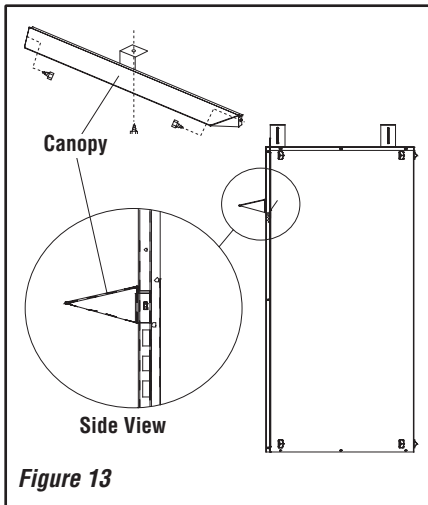

Figure 13
NOTE: A canopy comes standard and is required for model UVF-36. The factory-supplied canopy must be installed on the firebox for safe operation for model UVF-36 in all installations (this part is optional for other models). See Figure 13.
- Step 2.** Align the canopy with the holes in the side frames as shown in Figure 13. Install three screws as shown in Figure 13. Make sure canopy is level and secure.